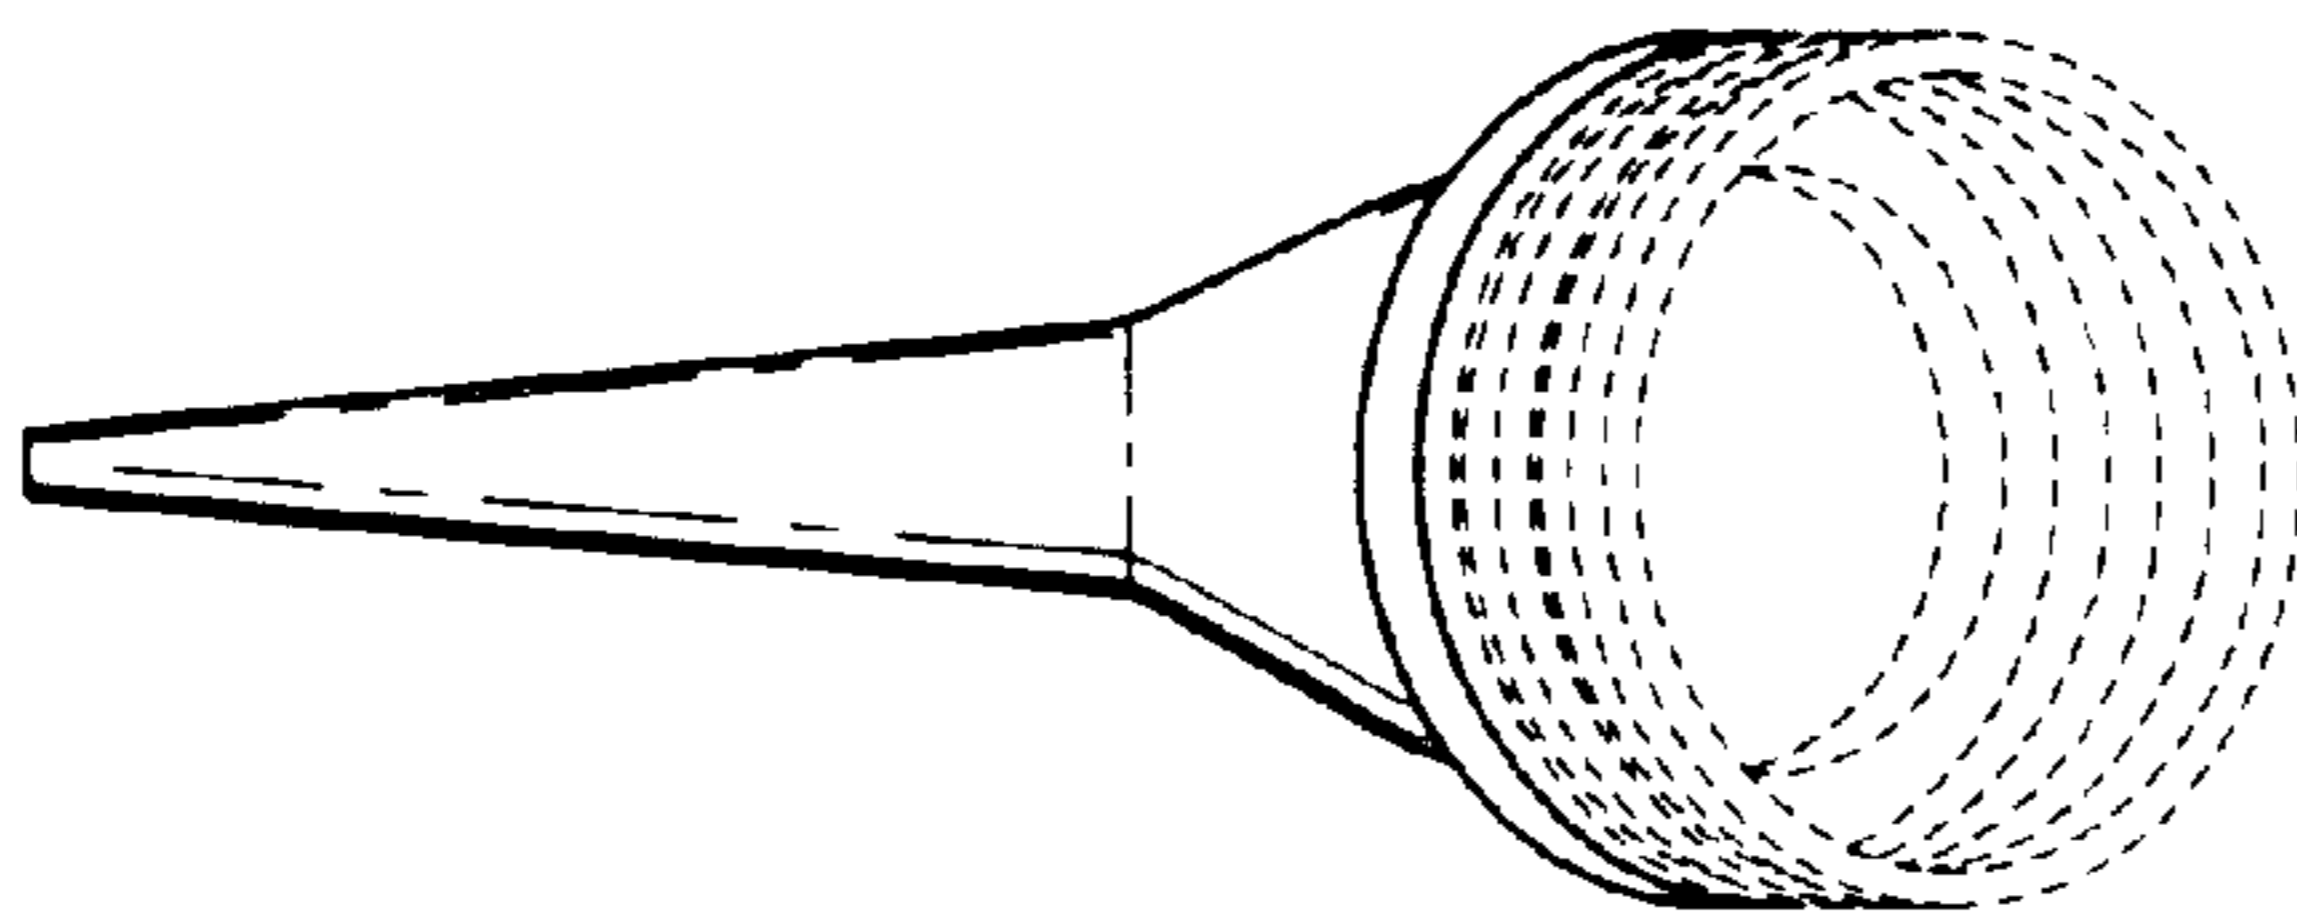

FIG. 6
- FIG. 6 is a bottom plan view thereof;